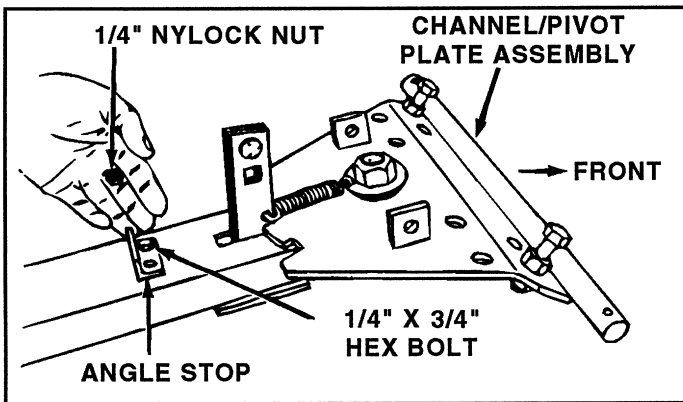

FIGURE 5
- Assemble angle stop to top of channel using one 1/4" x 3/4" hex bolt down through left hand hole, and one 1/4" nylock nut under channel. See figure 5. **Do not tighten at this time.**